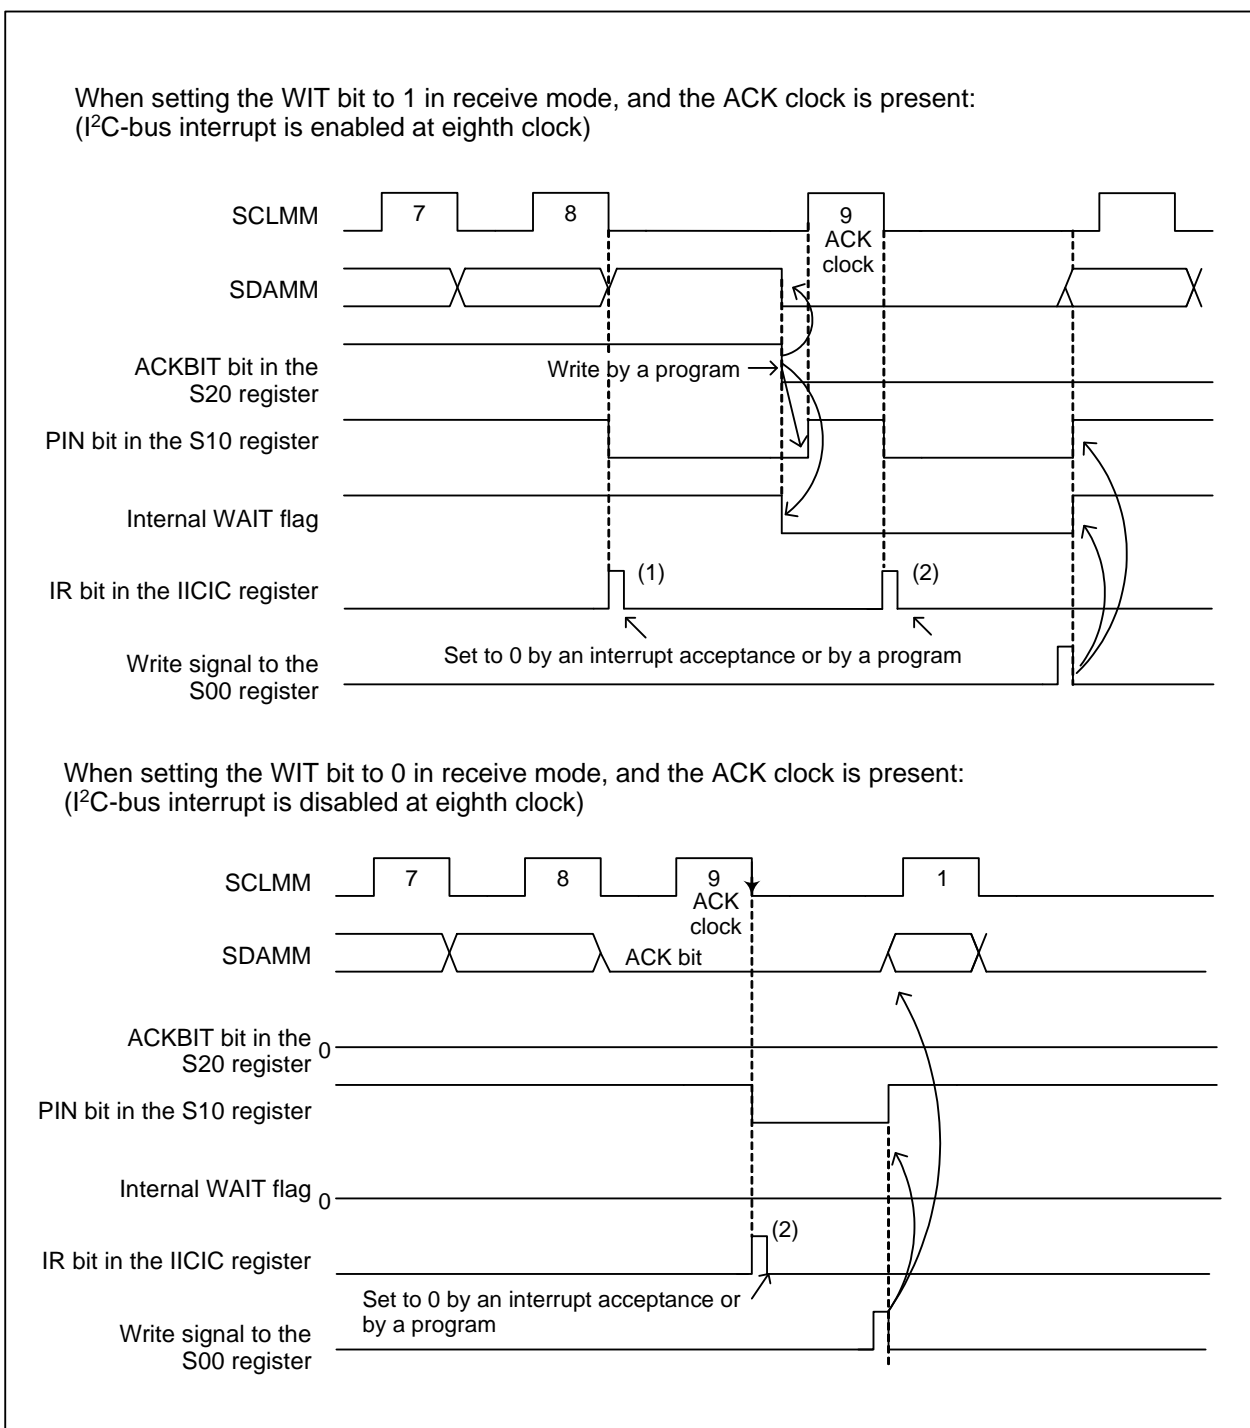

Figure 23.4 Interrupt Request Generation Timing in Receive Mode
Table 23.6 lists interrupt request generation timing and the conditions to restart transmission/reception when receiving data. Figure 23.4 shows Interrupt Request Generation Timing in Receive Mode.
1. See the timing of (1) on the IR bit in the IICIC register in Figure 23.4.
2. See the timing of (2) on the IR bit in the IICIC register in Figure 23.4.